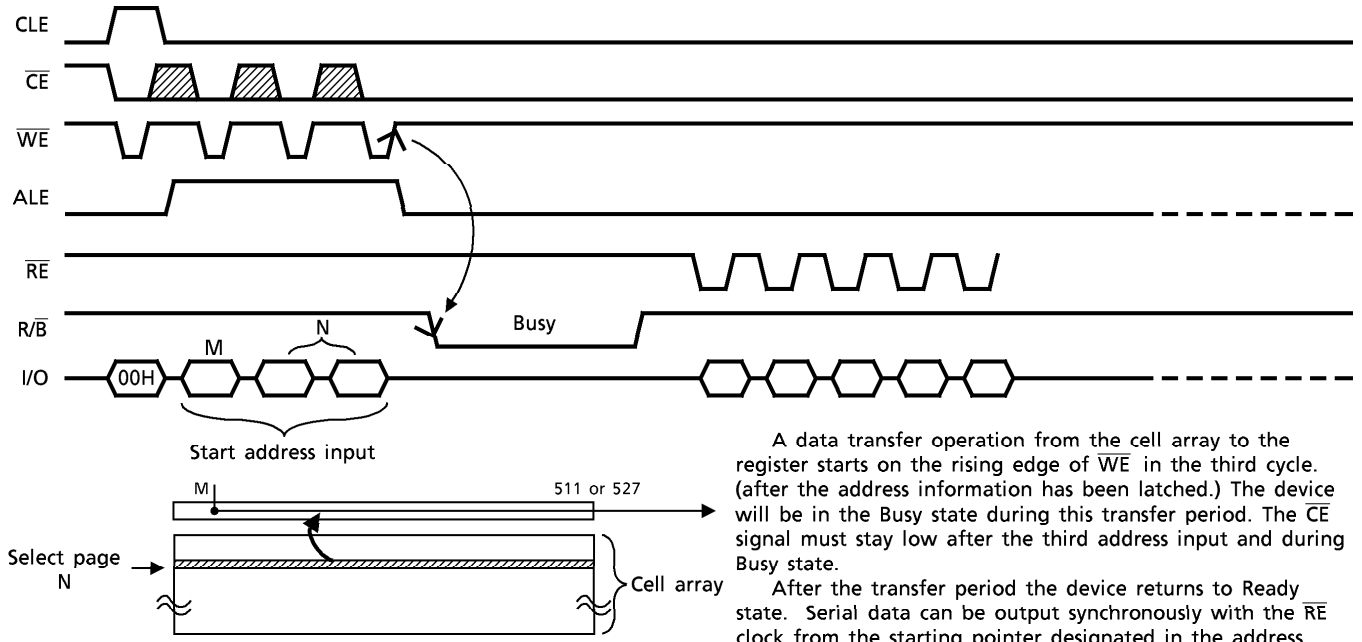

Figure 3. Read mode (1) operation
Read mode (1) is set by issuing a '00H' command to the command register. Refer to Figure 3 below for timing details and a block diagram.